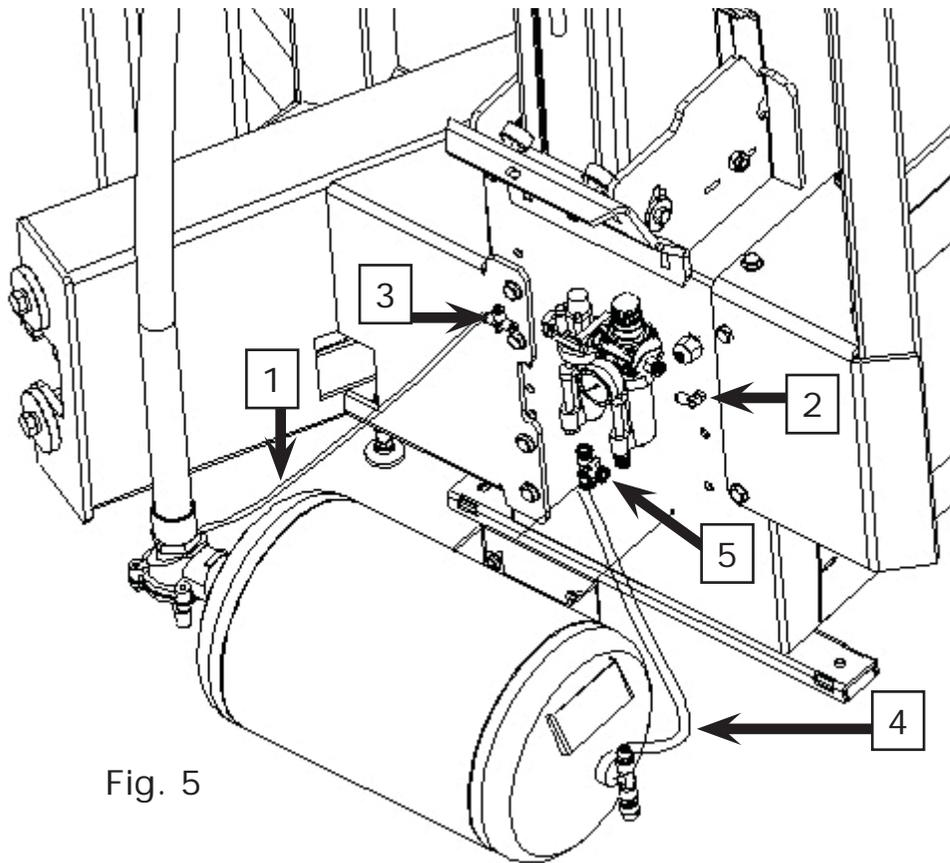

Fig. 5
### 4.2.3 Mounting and connecting the GT tank (ref. fig.5)
- Fix the tank on the back side of the machine body using the proper screw as shown in the figure 5;
- Connect the hose (1) protrudes from the GT pipe to the machine through the elbow union (2) and the T union (3);
- Connect the hose (4) to the T union (5) situated in the lubricator.
- Connect the hose (4) to the tank through the proper union.